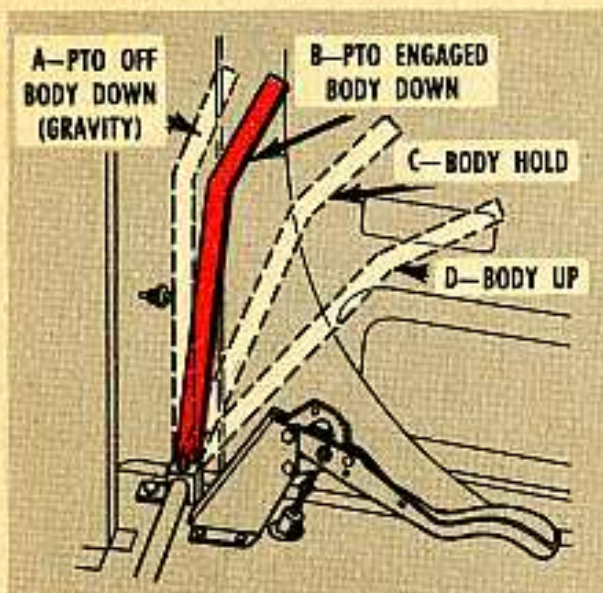

Fig. 2—Throw'er into (B) position and then operate the pump for at least a full minute.
the control lever to (A) position (Fig. 2) and lets the body slam down. If you don't get rid of this pressure, you'll think you brought in an oil well when you remove that filler plug. So do it this way:
First, raise and lower the body about two or three times. Next, shove the dump-body control-lever to (B) position (Fig. 2) and operate the pump for at least one minute to get rid of the pressure. **Then**, remove the filler plug and check the oil level.